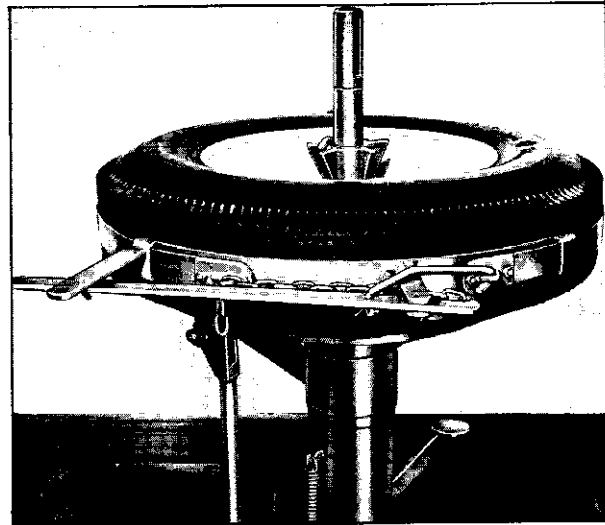

Fig. 6-4 Expanding Beads Against Rim with Mounting Band
3. Install valve core. Place a tire mounting band around center of tread and engage it to force tire beads out against rim. Fig. 6-4.